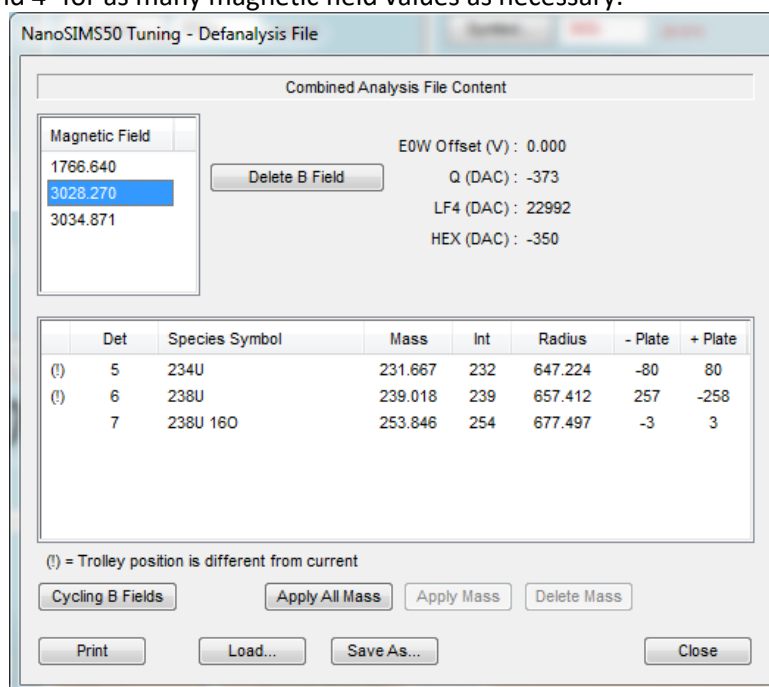

Figure 426: Def Analysis file in Combined Analysis mode.
Now the Def Analysis file contains info on all necessary detectors for each magnetic field value (Figure 426). Once all magnetic field configurations are set, start cycling the magnetic field, similarly as for the Peak Switching mode:
- 1- Open the Def Analysis File and click on “Cycling B Fields (Figure 426). Let it cycle for say 20 min (depending on B-field jump and peak shape/mass resolution).